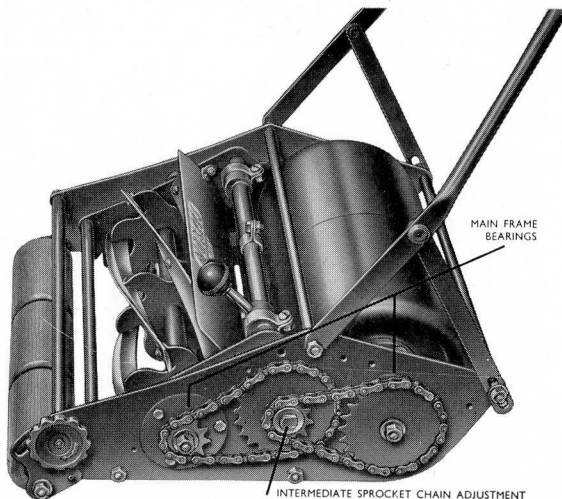

FIG. 2
- (e) Oil the main frame cutter and rear axle bearings seen at the back of the large and small chain sprockets. (First remove transmission cover.) See Fig. 2.
Any necessary adjustment required by the driving chains can be effected by highering and lowering the combined intermediate large and small centre sprocket (see Fig. 2) and the following procedure should be carried out :—